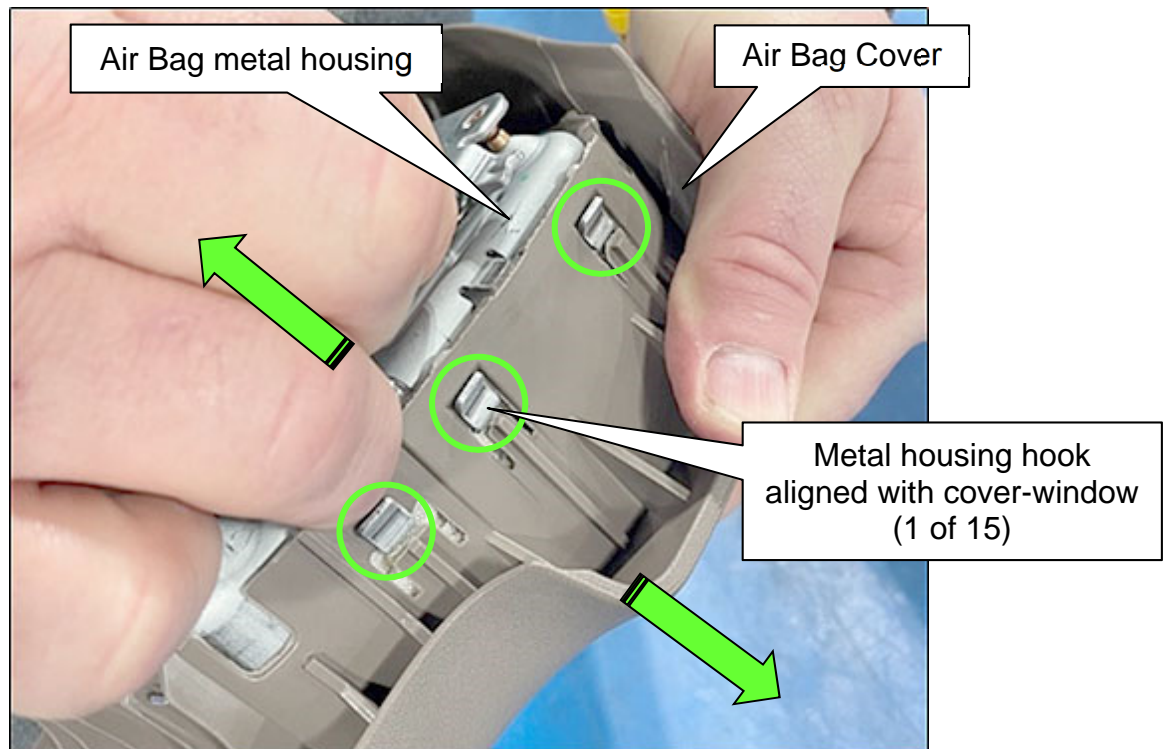

Figure 28
27. Verify that all fifteen (15) metal housing hooks are aligned and fully engaged into each associated cover-window.
28. Slowly pull the Air Bag metal housing and the Air Bag Cover apart (Figure 28) to lock all fifteen (15) metal housing hooks into each associated cover-window location.
- Three (3) metal housing hooks (Figure 28) shown with associated cover-window, for reference.